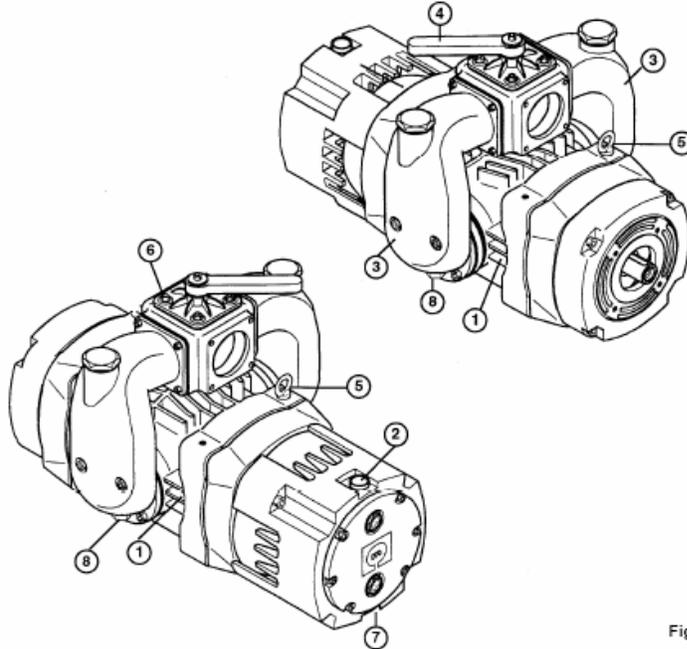

Fig. 11
- Remove the hexagonal socket cap, fig. 11, page 9.